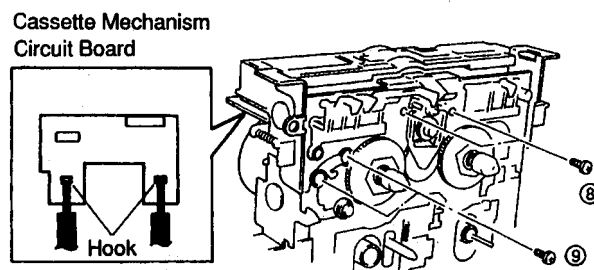

Fig. 8
- a. Remove 2 screws ( ⑧ ) in Fig. 8 and then remove the Capstan Motor.
- b. Remove 2 screws ( ⑨ ) in Fig. 8 and detach 2 hooks of the Cassette Mechanism Circuit Board, then remove the Reel Motor.